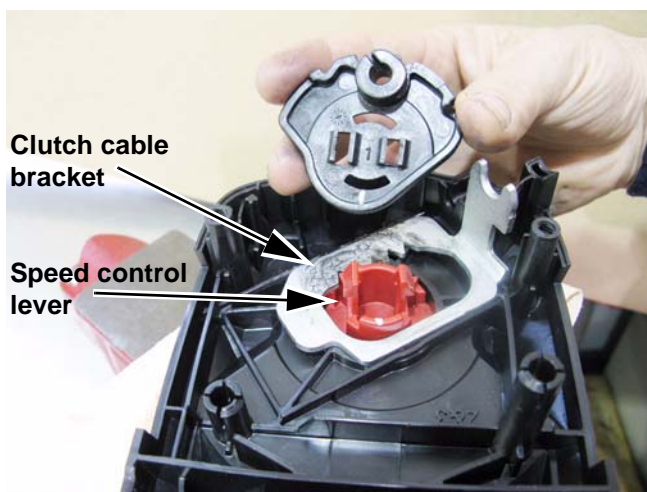

Figure 3.19
16. Lift the speed control actuator out of the drive control housing. See Figure 3.19.